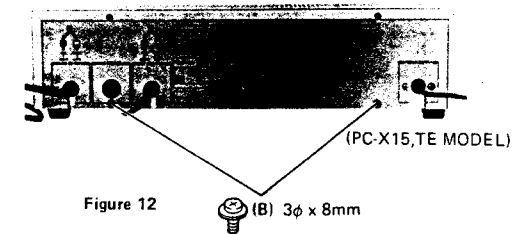

Figure 12
2. Remove two screws (B) from Jack Plate. (See Figure 12).